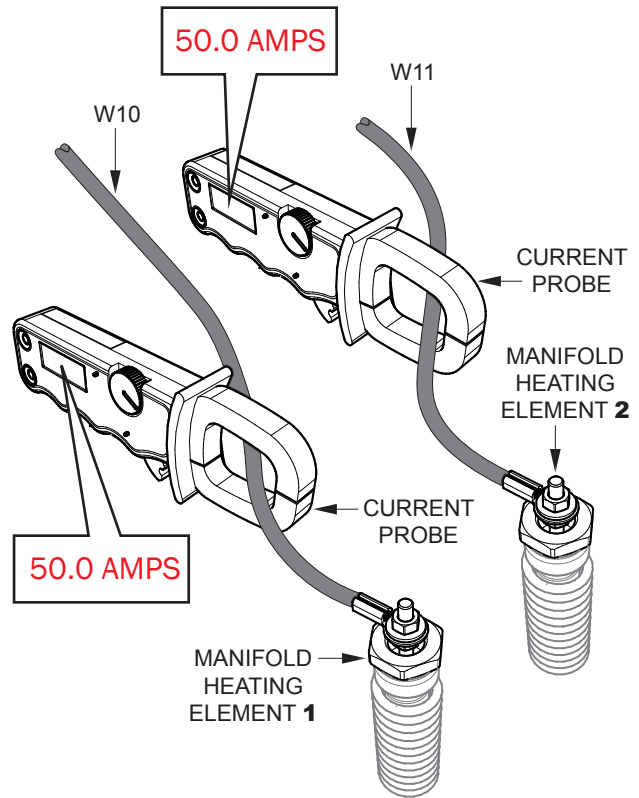

Figure 12. Heating Element Measurement
2. As shown in Figure 12, connect a current probe around wire W10 (Heating Element #1).
4. Turn ignition key to position 1 and verify that glow plug lamp is lit (ON).